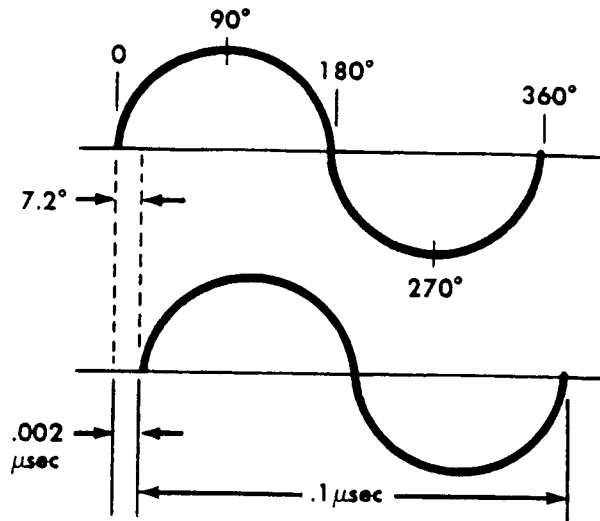

FIGURE 5-1. 7.2° Phase Shift.
**5.2.2 Phase Uniformity and Alignment.** These tests are performed to assure that signals pass through each multicoupler with the same speed. Figure 5-1 shows 7.2° phase shift that will result if a 10 MHz signal passes through a multicoupler .002  $\mu$ sec faster than the reference multicoupler. The speed with which signals pass through the multicoupler is determined by the capacitance and inductance that are adjustable and must be aligned to establish the desired phase uniformity.